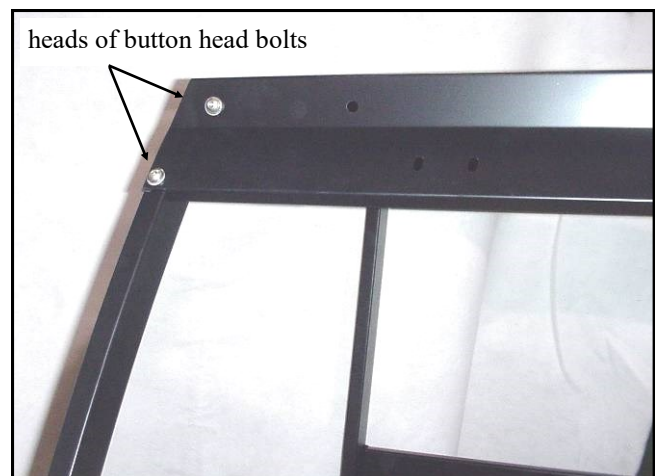

Fig. 11.1
11.1 With assistance, install the windshield support using a total of four button head bolts $5/16 \times 3/4$ " long, four plastic washers, six steel washers, and two lock-nuts. Two of the four bolts go into factory installed threaded inserts in the side frame as shown in fig. 11.1. All four bolt heads to be facing towards the front of the vehicle. Note: there will be a top hole on each side that will not get hardware until the roof is installed on the next page (step 14).